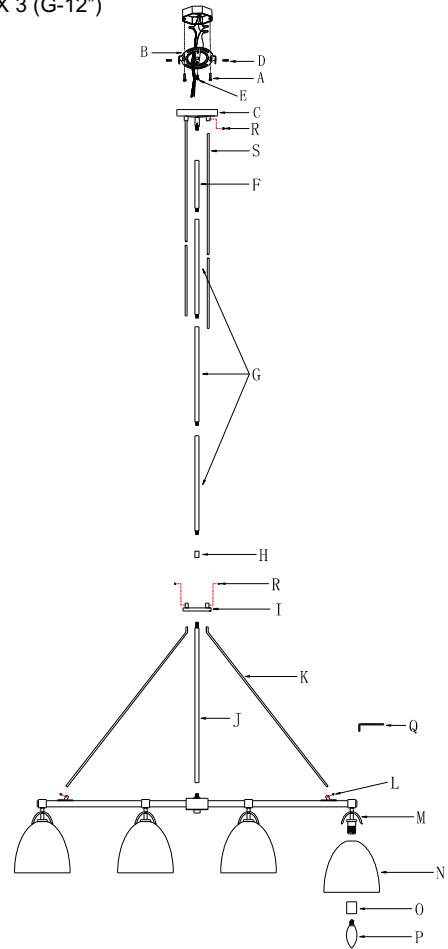

Fig. 2
CONNECTING THE WIRES (Fig. 2)
8. Connect electrical wires as shown in Fig.2, making sure that all wire connectors are secured. If your junction box has a ground wire (green or bare copper), connect the fixture's ground wire to it. Otherwise, connect the ground wire directly to the mounting plate (B) using the green screw (E) provided.